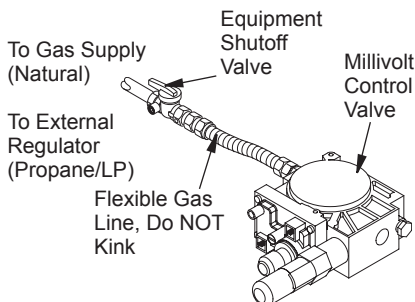

Figure 32 - Connecting/Disconnecting Gas Line to Millivolt Valve
- Using a 5/16" hex socket wrench or nut-driver, connect or disconnect flexible gas line and control valve (see Figure 32).